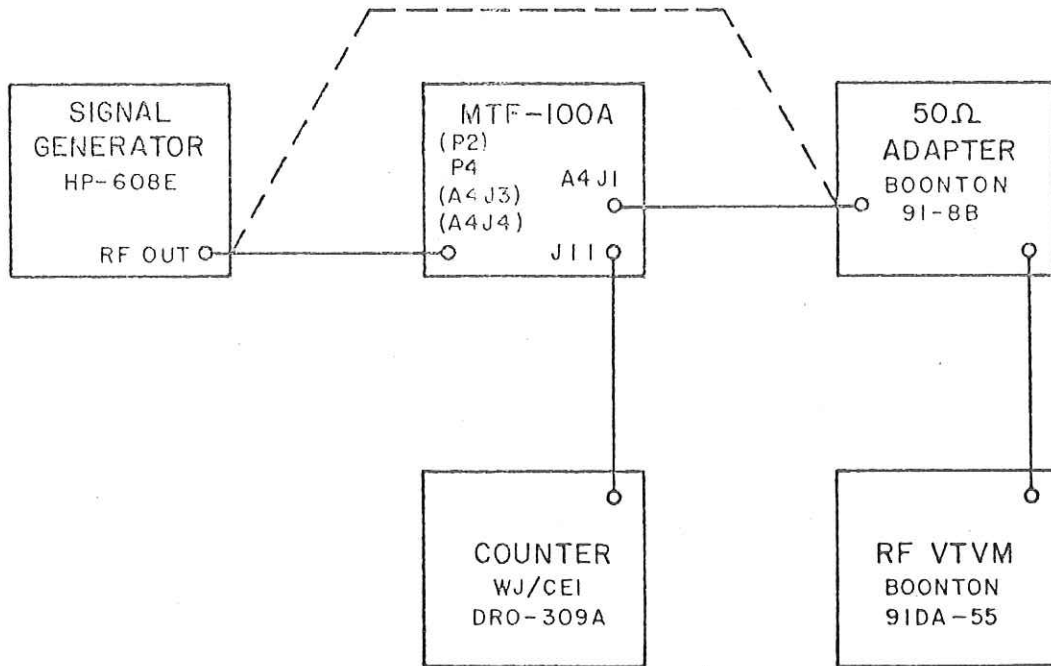

Figure 4-3. Test Setup, MTF-100A IF Coupler/Converter
- (1) Set up the equipment as shown by the dotted line in Figure 4-3.
- (2) Set the signal generator for 160.000 MHz \pm 1 kHz, CW, approximately -30 dBm. Use the counter at the signal generator at the UNCAL jack to set the frequency.
- (3) Adjust the generator output level for a convenient reference on the RF VTVM.
- (4) Connect the RF output of the signal generator to P4 of the MTF-100A. Complete the equipment set up as shown by the solid line in Figure 4-3.
- (5) Set the front panel TUNER SELECT switch to the TUNER 1 position.
- (6) Measure the loss from P4 (IF output, TUNER 1) to A4J1 (160 MHz IF OUT). The loss should be no greater than 6 dB.
- (7) Connect the signal generator to the other tuner IF output jacks (P2, A4J3, A4J4) in turn. The RF VTVM reading should be at least 20 dB below the reading obtained in step 6. This checks the isolation of the IF coupler.
- (8) Connect the signal generator to P2 (TUNER 2 IF OUT), A4J3 (TUNER 3 IF OUT), A4J4 (TUNER 4 IF OUT) and, in turn verify the loss to A4J1 (160 MHz IF OUT) and the isolation of the tuner IF when not selected by the front panel switch.
- (9) Check the frequency at J11, 21.4 MHz IF OUT. It should be 21.400 MHz \pm 3 kHz.
- (10) Remove the counter from J11 and connect the 50 Ω adapter and RF VTVM to J11.
- (11) Measure the insertion loss from P2, P4, A4J3, and A4J4 to J11. It should be typically 4 dB.